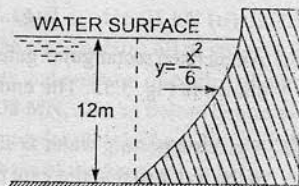

Fig. 3.61
22. Find the magnitude and direction of the resultant water pressure acting on a curved face of a dam which is shaped according to the relation $y = \frac{x^2}{6}$ as shown in Fig. 3.61. The height of water retained by the dam is 12 m. Take the width of dam as unity.